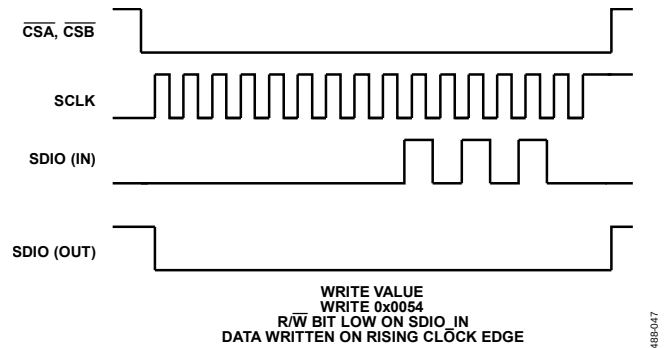
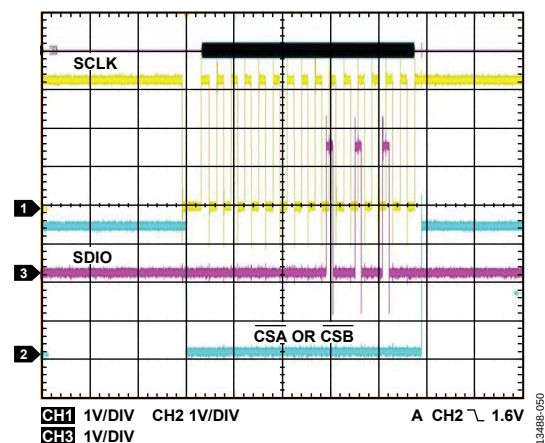
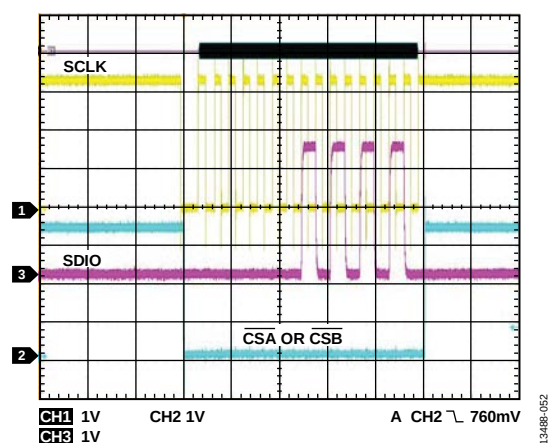

Figure 54. Write Gain Control Word
Figure 57. Write Gain Control Value, 0x0054
Figure 59. Read Back Value, 0x0154
The ADL5205 can be read back only in the serial mode, during a read cycle (from $\overline{\text{CSA}}/\overline{\text{CSB}}$ low to $\overline{\text{CSA}}/\overline{\text{CSB}}$ high) after the R/W bit is set high in the previous cycle. During the read cycle, data changes at each rising edge of SCLK, and can be latched using the falling edge of SCLK. There is no continual read operation. A logic high (1) must be written into the R/W bit to enable the subsequent read cycle. The sequence for reading back is shown in Figure 54 to Figure 57, showing the operation of the input and output functions of the SDIO pin. The actual waveforms during the readback process are shown in Figure 57 to Figure 59. SDIO is enabled as an output only during the read cycle in Figure 57.